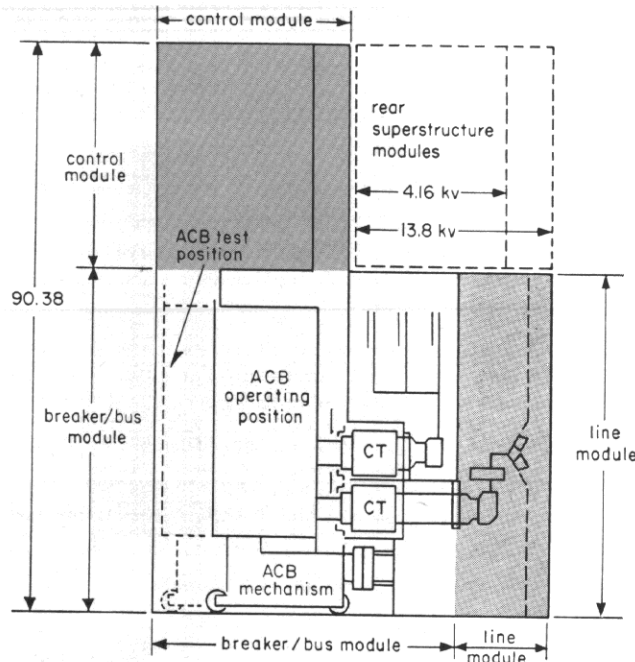

figure 4: sectional view of typical indoor circuit breaker housing
**stationary structure:** Figure 4 is a sectional view of a typical indoor circuit breaker housing. The unit is assembled of welded functional components. Basic sub-assemblies or modules are the control, breaker/bus, and line modules. An additional rear superstructure module can be added for auxiliary equipment such as potential transformers.